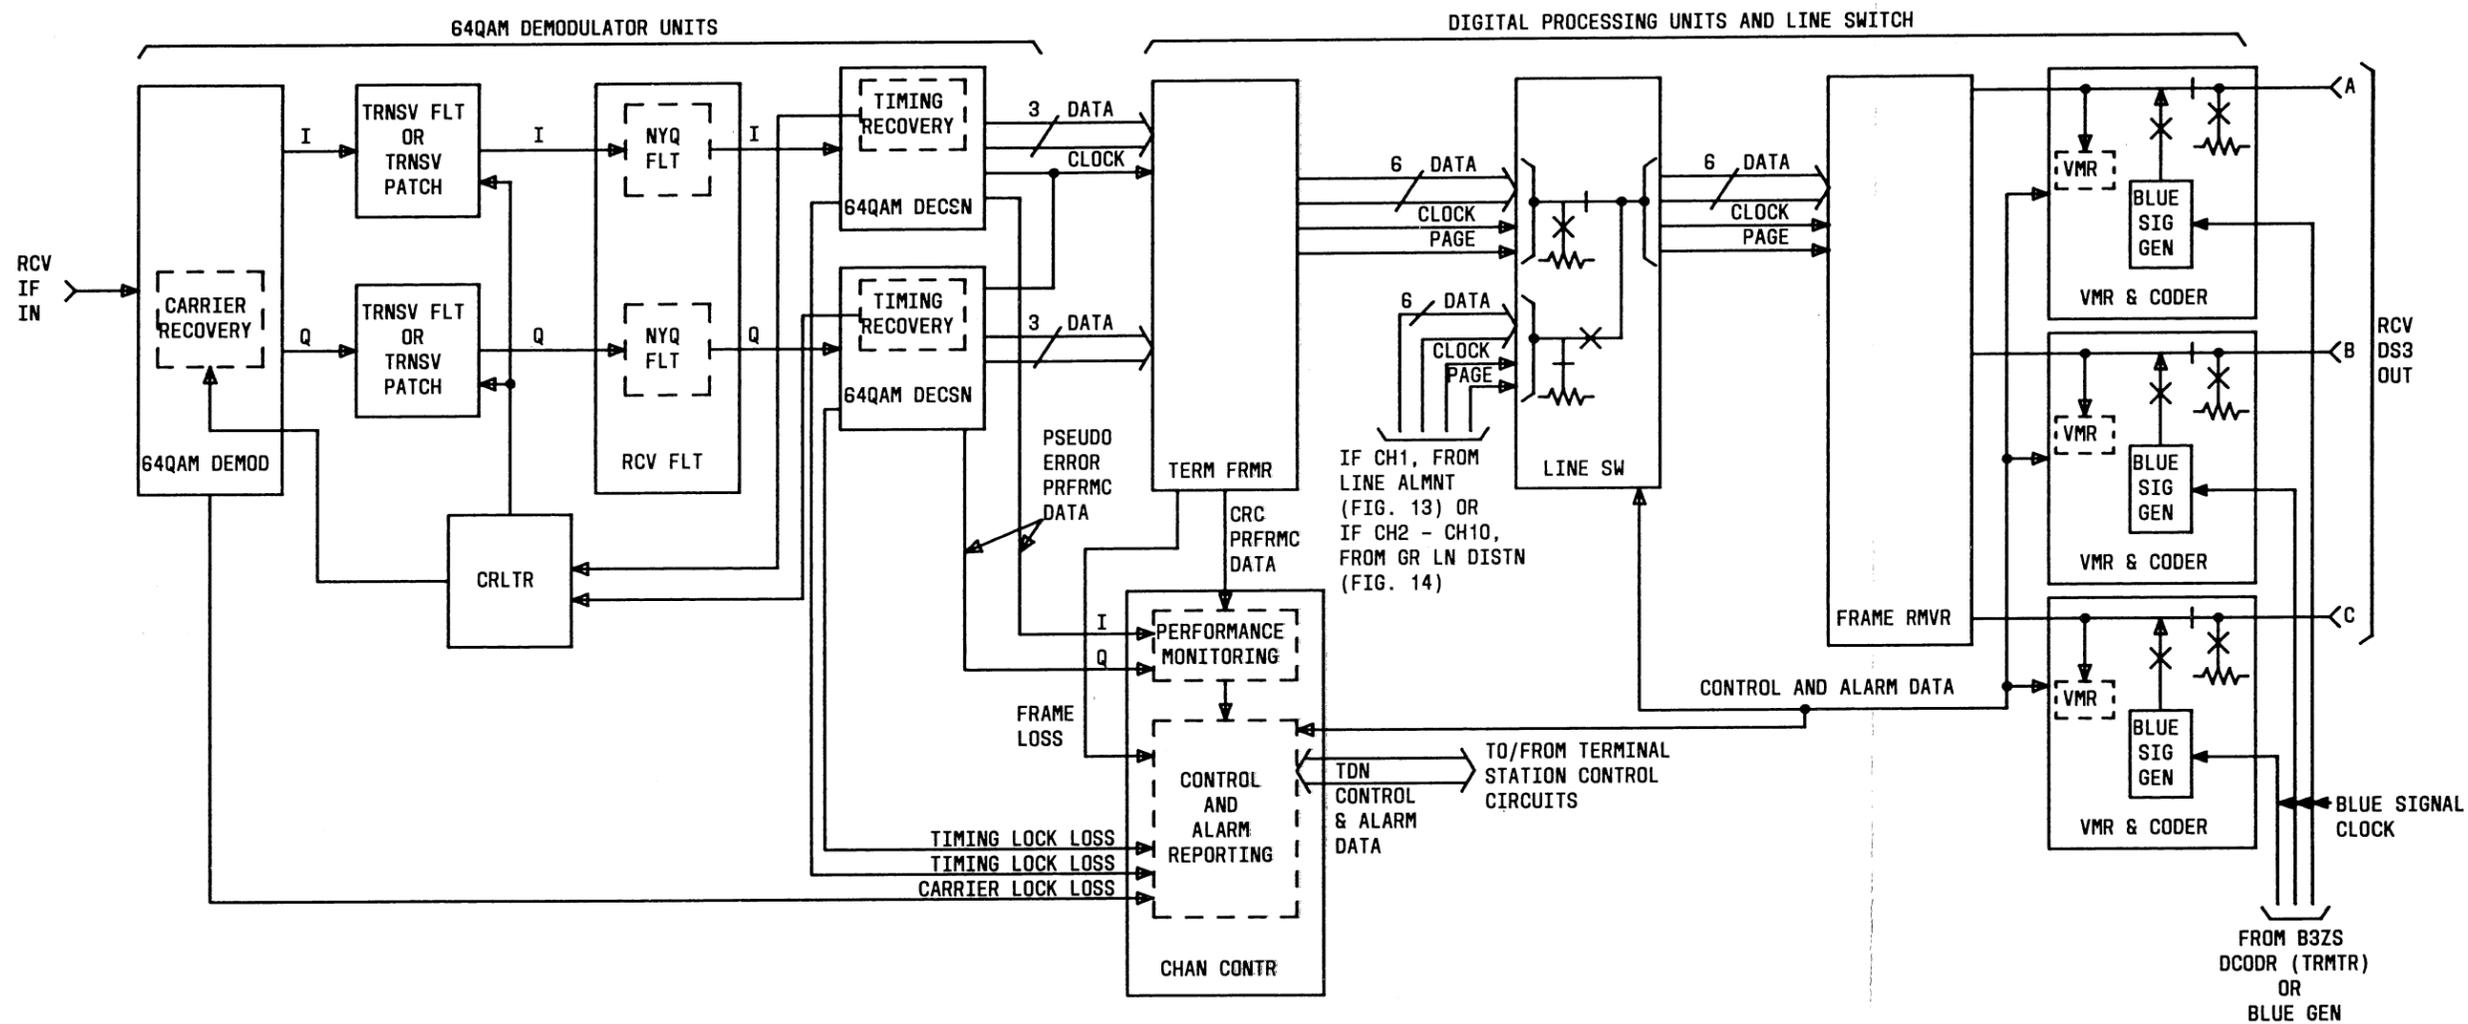

Fig. 12—135A Regular Channel Digital Terminal Receiver
- Figure 12—Regular Channel Digital Terminal Receiver